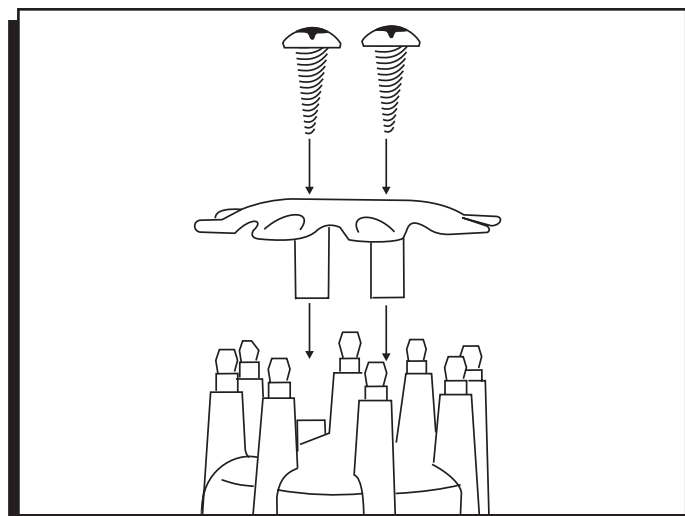

Figure 11 Installing the Wire Retainer
10. Install the distributor cap and spark plug wires one at a time to ensure correct location. A wire retainer is supplied to secure the wires in place. Align the mounting bosses and use the supplied 8-32 x 1" Pan Head screws to hold the retainer in place (Figure 11).